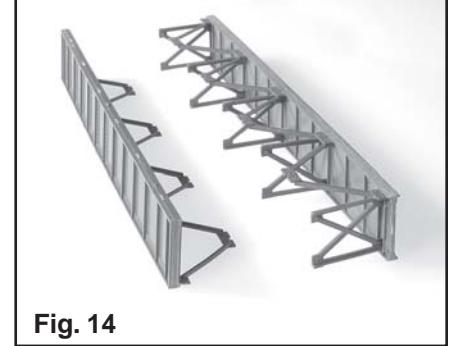
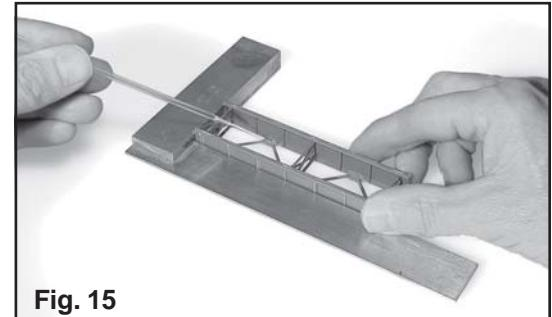

Fig. 14
Fig. 15
Place one of the girders on edge with the lateral bracing down. Place the other girder on edge with the lateral bracing up and slide the two assemblies together. See fig. 14. Use rubber bands to hold the span assembly together while positioning the bracing as described in steps 13 and 15. Cement the X-braces to the opposite girder. For the bridge deck to align properly span to span, it is important that the two girders of each span be square. As with a prototype bridge the lateral bracing keeps the girders square to each other. Remove the rubber bands and place the girder assembly in a square as shown in fig. 15. Cement the lateral bracing while holding the girders against the square.
d. Step 16. When cementing the two girder assemblies together for each span, the square cannot be utilized as shown in fig. 15. Because the spans have a shortened girder, the square cannot be placed against the girder ends. Instead, place the square against a vertical angle on the outside of one girder and visually align it with the corresponding vertical angle on the inside of the other girder.